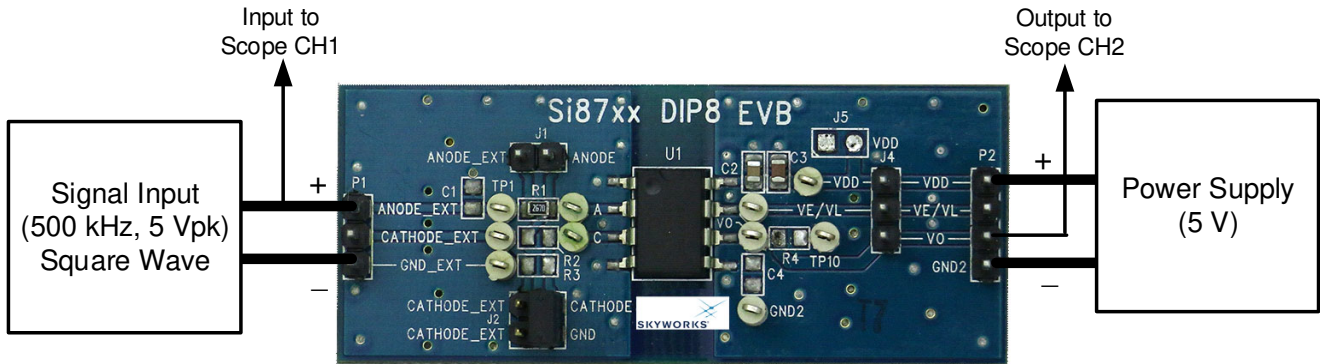
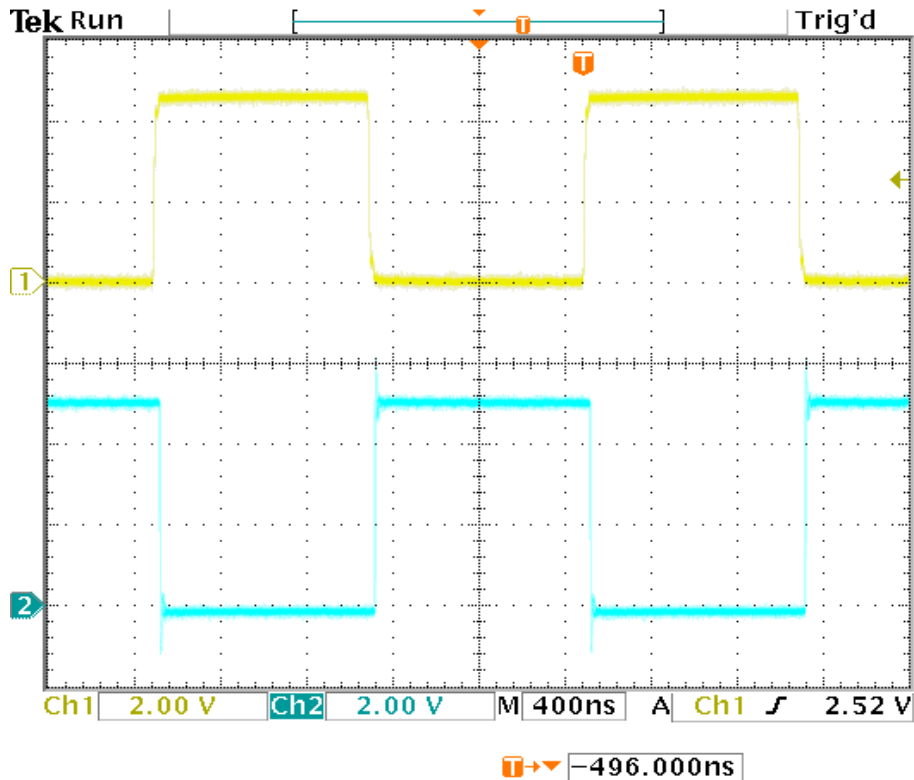

Figure 4. Summary Diagram and Test Setup
Figure 5. Oscilloscope Display of Input and Output
Figure 4 illustrates the connection diagram to demonstrate the Si871x-DIP8 EVB. The other footprint boards demonstrate in a similar fashion. This demo transmits a 500 kHz (5 V peak, 50 percent duty cycle) square wave through the isolator to its output (Vo). In this example, VDD is powered by a 5 V supply. Figure 5 shows a scope shot of CH1 (input) and CH2 (output). Note that if a user wants to evaluate an LED Emulator Input isolator other than the ones prepopulated, this can be accomplished by removing the installed device and replacing it with the desired footprint-compatible isolator device.
To run the demo, follow the instructions below. Review Figure 4 and Figures 9 through 11 if necessary.
5. Adjust the level indicator for all channels to properly view each channel as shown in Figure 5.
A 500 kHz square wave should display on Channel 1 of the scope for the input and a 5 V delayed and inverted version of this square wave should display the output on Channel 2, as shown in Figure 5. This concludes the basic demo. For more advanced demos, see the following sections.